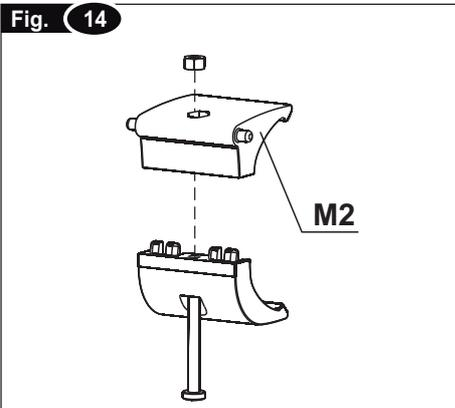

Fig. 15
- 7) Fig.15 - Fit the two pairs of clamps previously Assembled **M2** with the brackets **SG** (window frame);